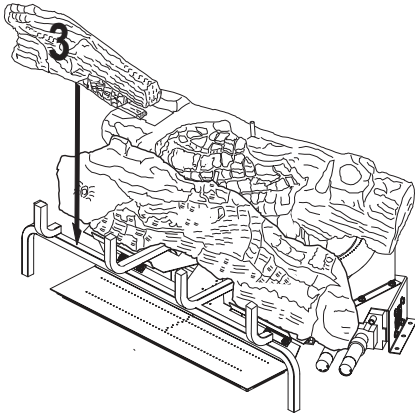

Figure 39 - Installing Log # 3
2. Place the front left log (#3) onto the base assembly between the middle log (#2) and the grate fingers. The back of the front left log (#3) will rest against the front of the middle log (#2). The notch at the end of the front left log (#3) will fit around the grate bar. See Figure 39, page 22.